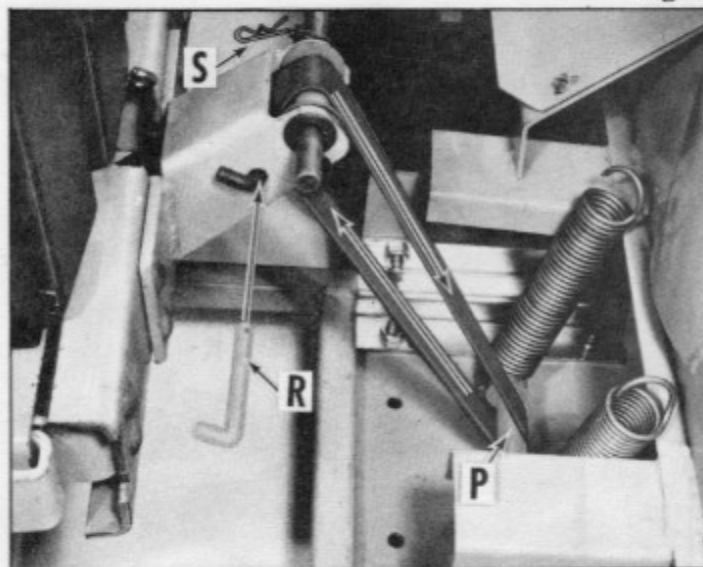

Fig. 5
Check to make sure there is no twist in strap. Thread strap under lifting rod (P) on header; loop back as shown in Fig. 5. Slide clevis pin (R) through lift yoke and through loop in strap. Secure with hair pin cotters.